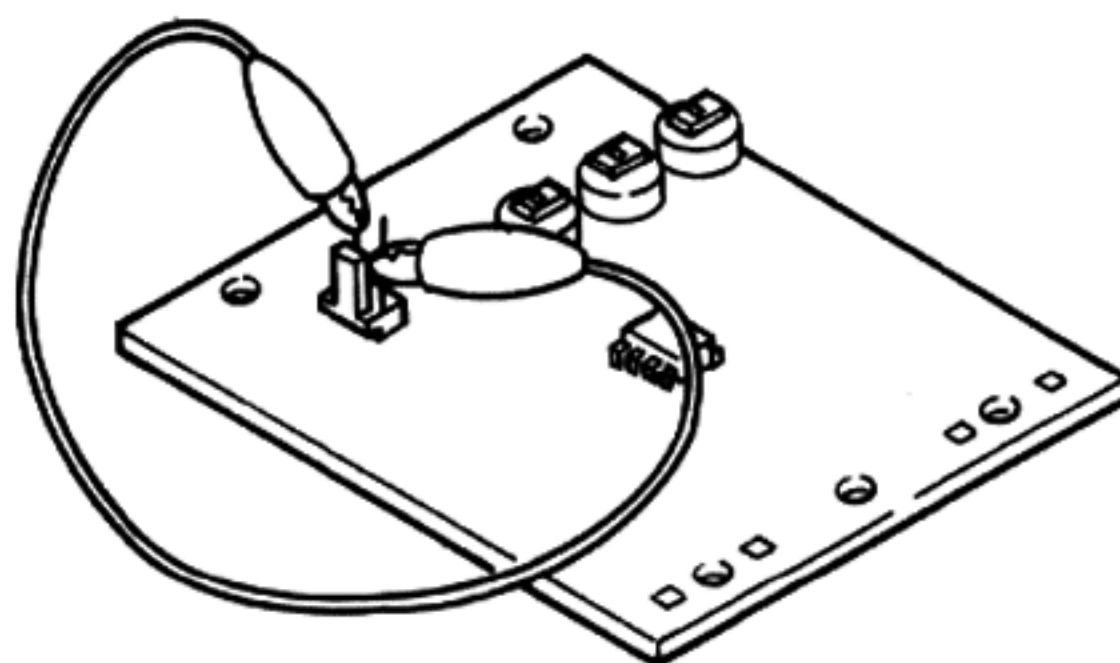

Fig. 8
3. Even when Quartz Lock is ON the meter works if you short the pins in the Meter Drive Assembly (PWX-010) as Fig. 8.